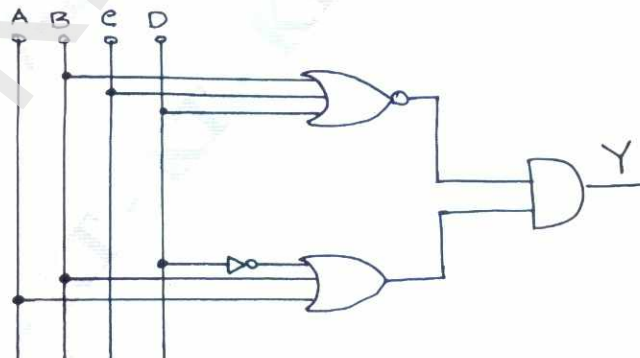

Fig.Q.5(c)
- c. Logic circuit is displayed in Fig.Q.5(c). Obtain the expression for Y in terms of ABCD (04 Marks)